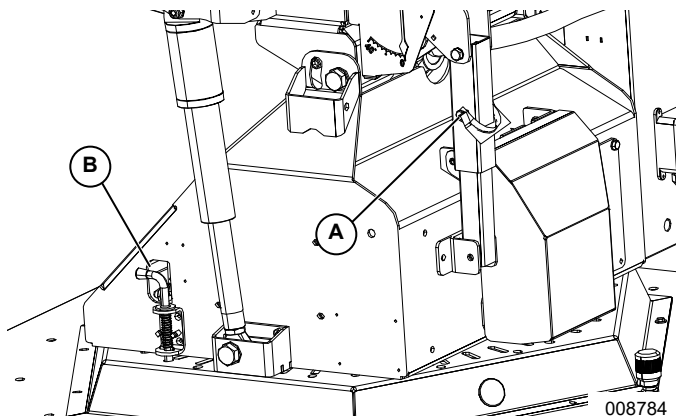

Figure 3-4. Transport Safety Locks
- See **Figure 3-4**. Verify transport lock (D) and (E) are disengaged. For more information, see **Using Transport Locks**.